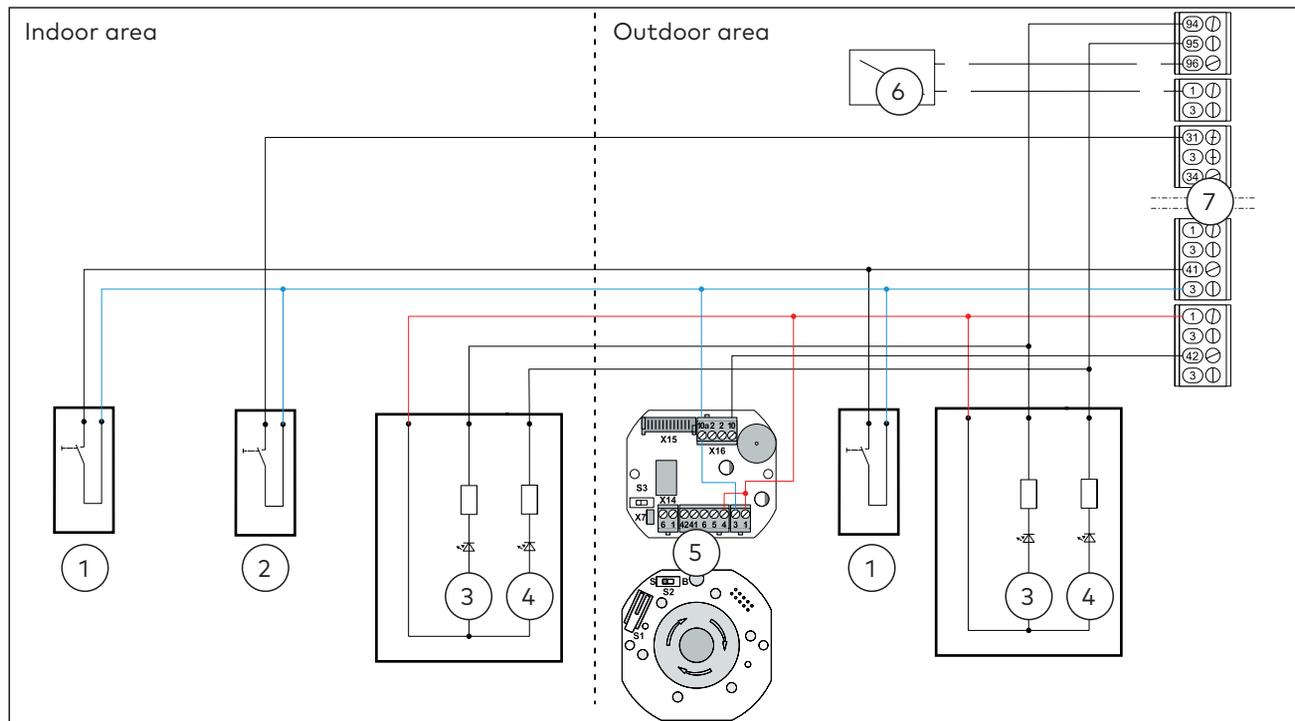
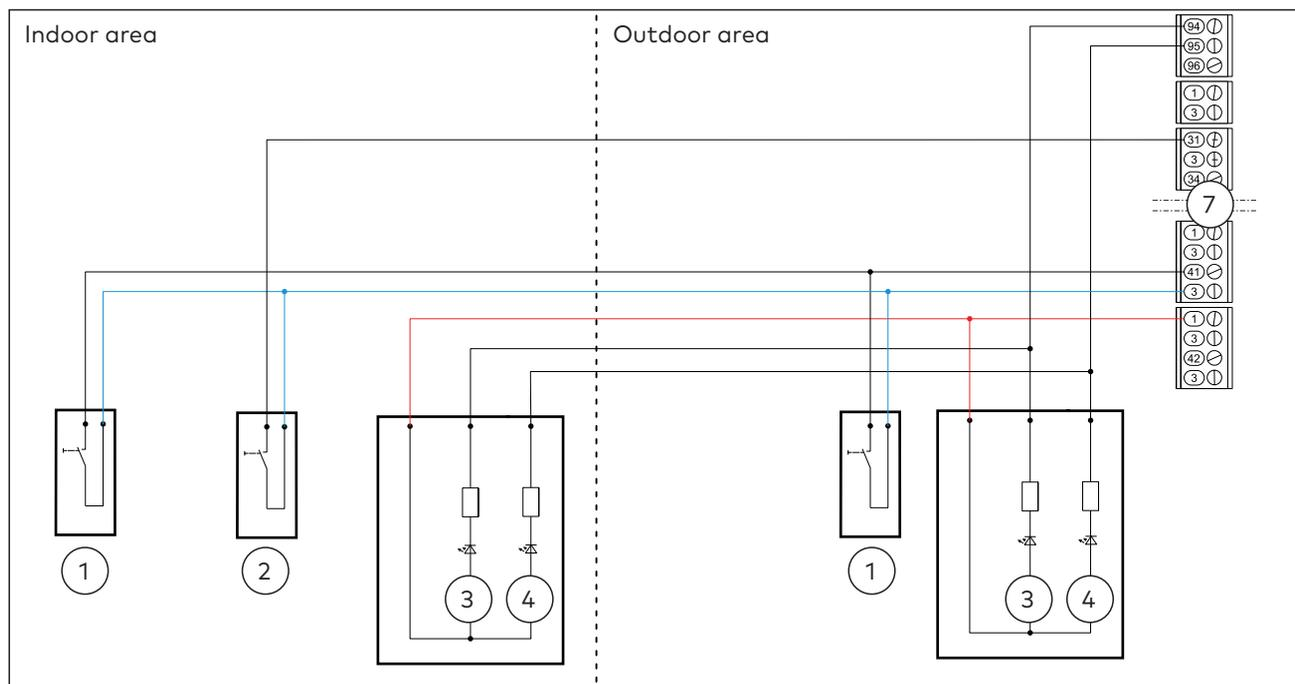

Fig. 56 Example connection diagram WC public area
Fig. 57 Example connection diagram WC private area
1. Connect the WC control according to the wiring diagram. WC public area (Fig. 56), WC private area (Fig. 57). The connection diagrams are exemplary.